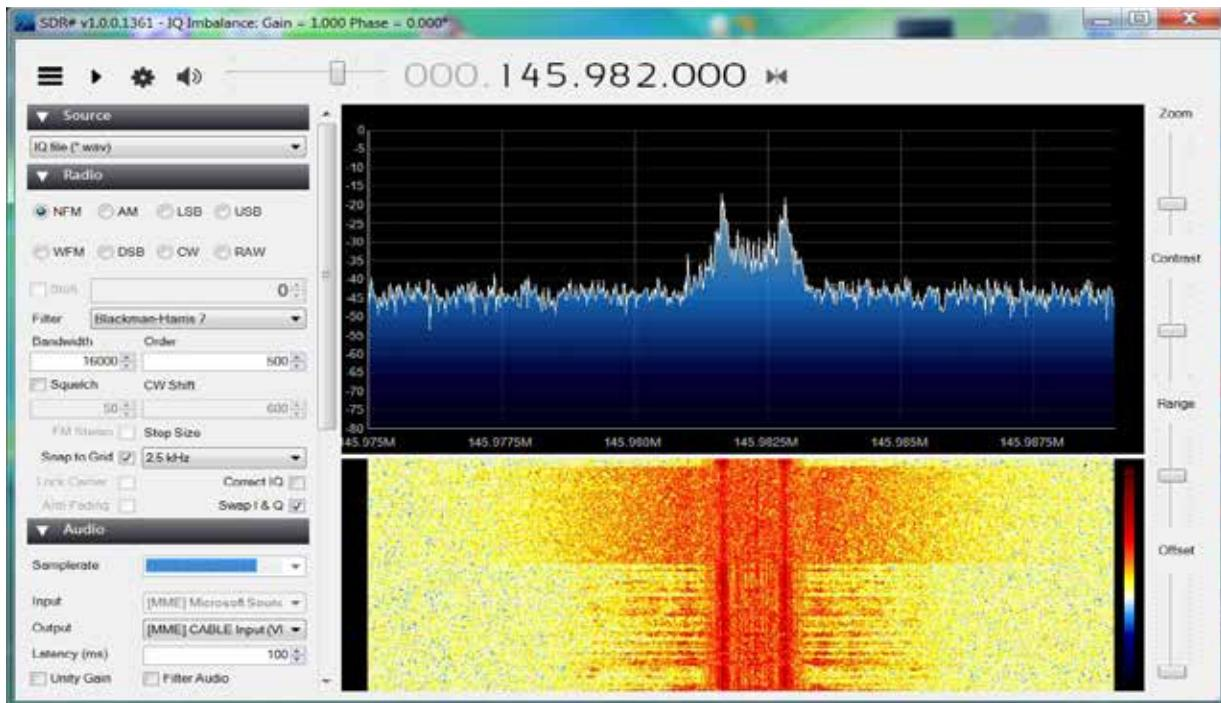

Figure 9.
10. From Foxtel, select "Start" and the data should appear on the two bottom windows (Figure 9).
Figure 9—Using GNU Radio flow graphs from Daniel EstÈvez (EA4GPZ), LilacSat-1 transmits a live picture from space on 70cm in response to a packet command transmitted on 2m FM.
the foundation provided by the LilacSat Project Team at the Harbin Institute of Technology in China to allow us to decode spacecraft telemetry, GPS location data, JPG pictures taken in space, PLUS the digital voice downlink from LilacSat-1's onboard FM repeater! His work is both incredible and all freely available. Many other satellite decoders and utilities are available from Daniel at github.com/daniestevez/gr-satellites (Figure 9).